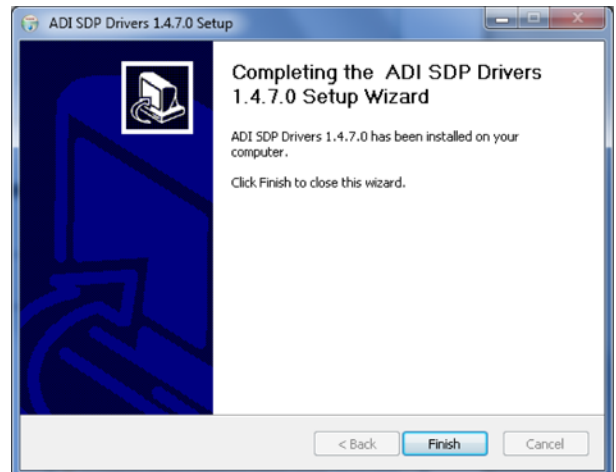

Figure 12. Installation Completion Window
4. Click **Finish** to complete the drivers installation (see Figure 12).